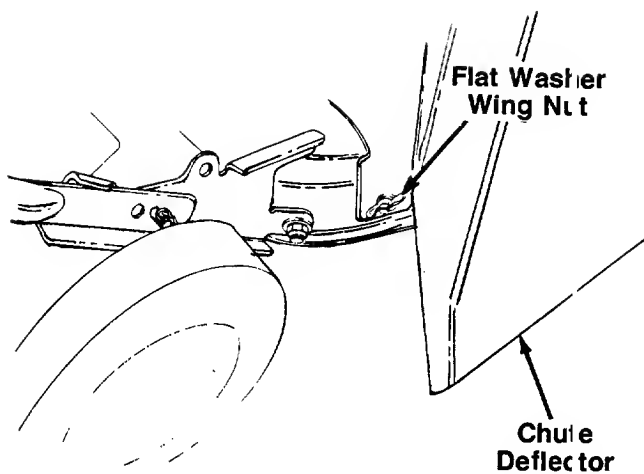

FIGURE 10.
3. Secure the back of the deflector in the same manner. See figure 10.